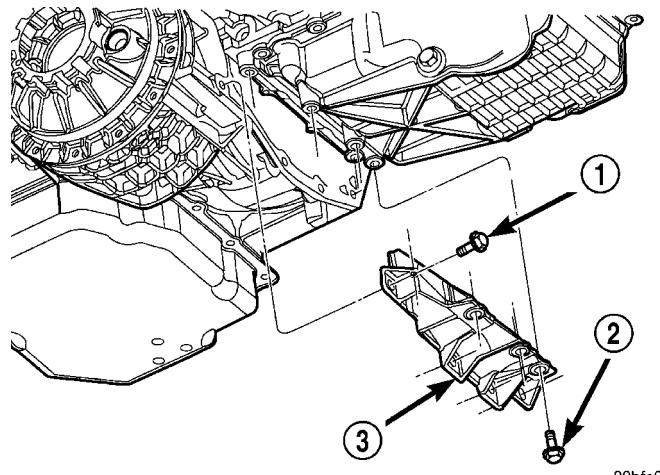

Fig. 94 Structural Collar
- (1) Raise vehicle on hoist.
- (2) Remove bolts attaching structural collar to oil pan and transmission housing (Fig. 94).
- (3) Remove collar (Fig. 94).
- (1) Install structural collar (Fig. 94) using the following tightening sequence:
- (2) Lower vehicle.